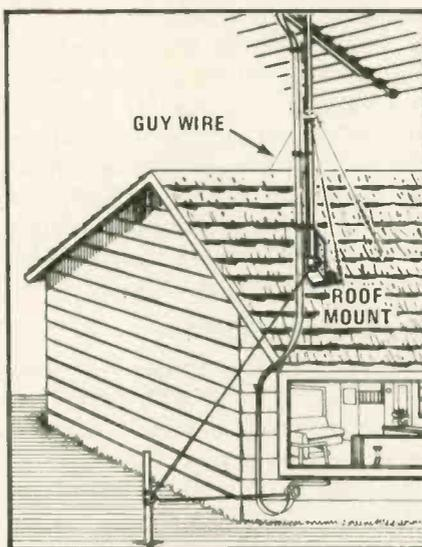

Fig. 3—Use a guy ring and guy wires for those higher antenna installations.
- If you go to 10 ft or more above the top of the chimney, use a guy ring and guy wires, as shown in Fig. 3. Even with guy wires, don't try to go more than 19 ft above the chimney top, unless the antenna is unusually small, ice loading is no problem and high winds are very rare.
Fig. 3 shows a typical base mount installation. A base mount has only one job—to hold the mast firmly at the bottom. Because base mounts hold masts only at one point, how-